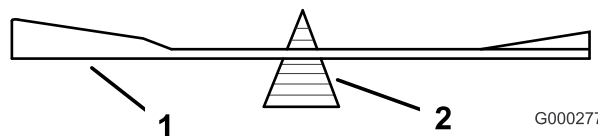
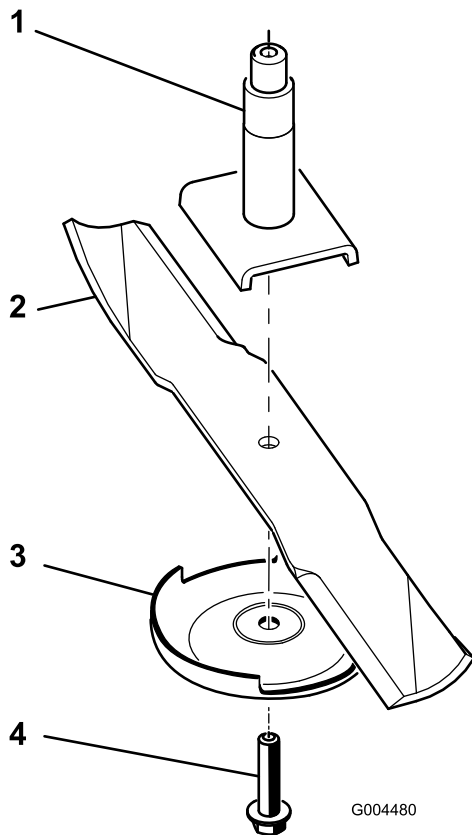

Figure 76
Figure 77
2. Remove the blade bolt, anti-scalp plate, and blade from the spindle shaft (Figure 77).
2. Check the balance of the blade by putting it on a blade balancer (Figure 76). If the blade stays in a horizontal position, the blade is balanced and can be used. If the blade is not balanced, file some metal off the end of the sail area only (Figure 77). Repeat this procedure until the blade is balanced.
1. Install the blade onto the spindle shaft (Figure 77).
2. Install the anti-scalp plate and blade bolt (Figure 77).